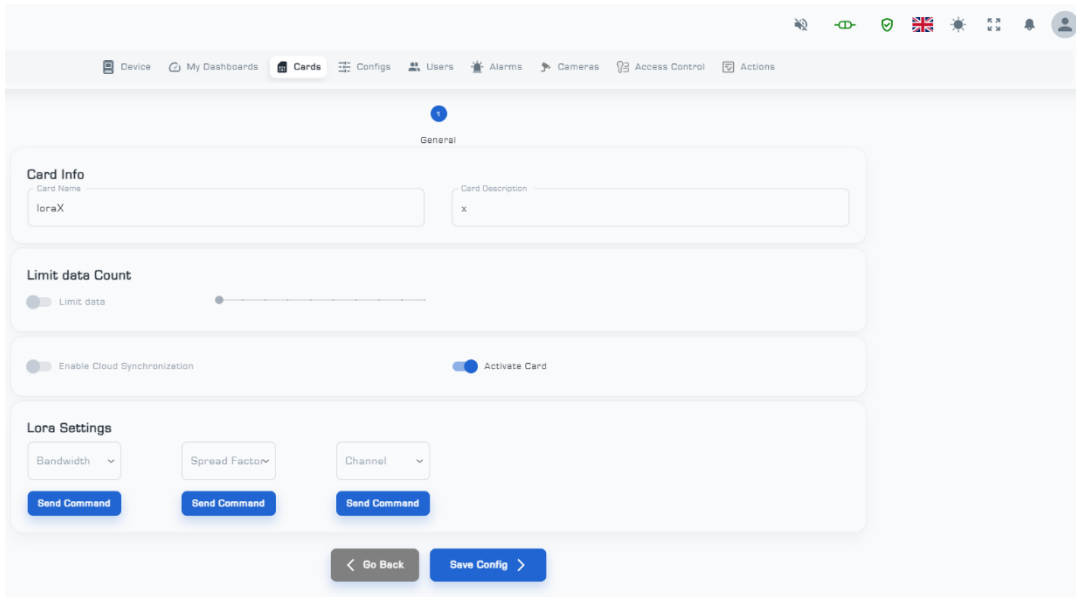

Figure 5: Card settings page
(1) Select the "Config" menu and enter the settings page (Figure 5).
(2) Fill in the "Card Name" and "Card Description1" fields.
(3) In the Lora Setting section, the configurations for Bandwidth, Spread Factor, and Channel2 can be adjusted.
(3) Select "Save Config" to save and apply the settings (Figure 5).